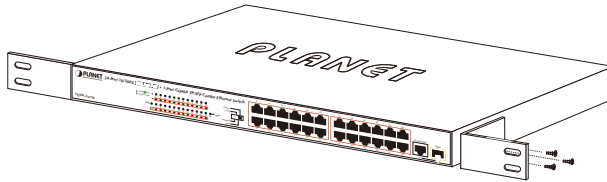

Figure 3-1: Attaching the Brackets to the FGSW-2511P.
- Step 2:** Attach a rack-mount bracket to each side of the FGSW-2511P with supplied screws attached to the package. Figure 3-1 shows how to attach brackets to one side of the FGSW-2511P.